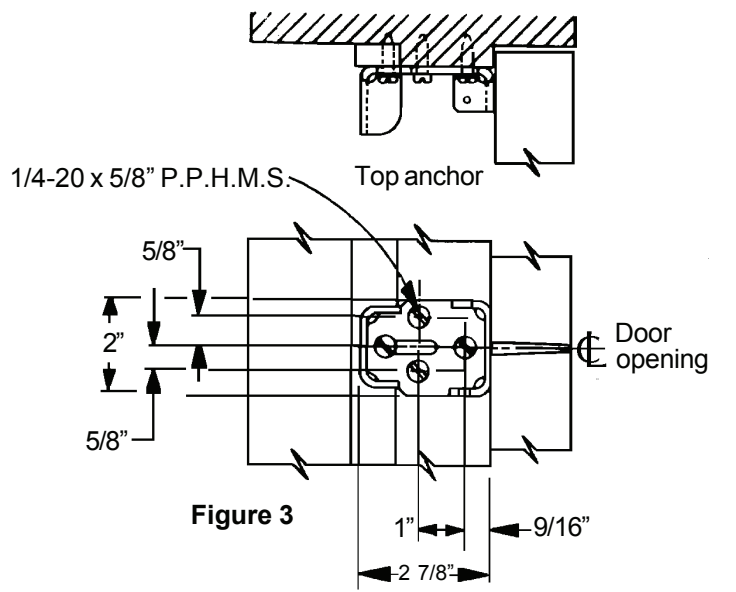

Figure 3
- 2 Line up top mullion fitting with center of door opening and flush with closed doors as shown in Figure 3 and install. See Figures 5, 6, and 7 (reverse side) for optional frame conditions.